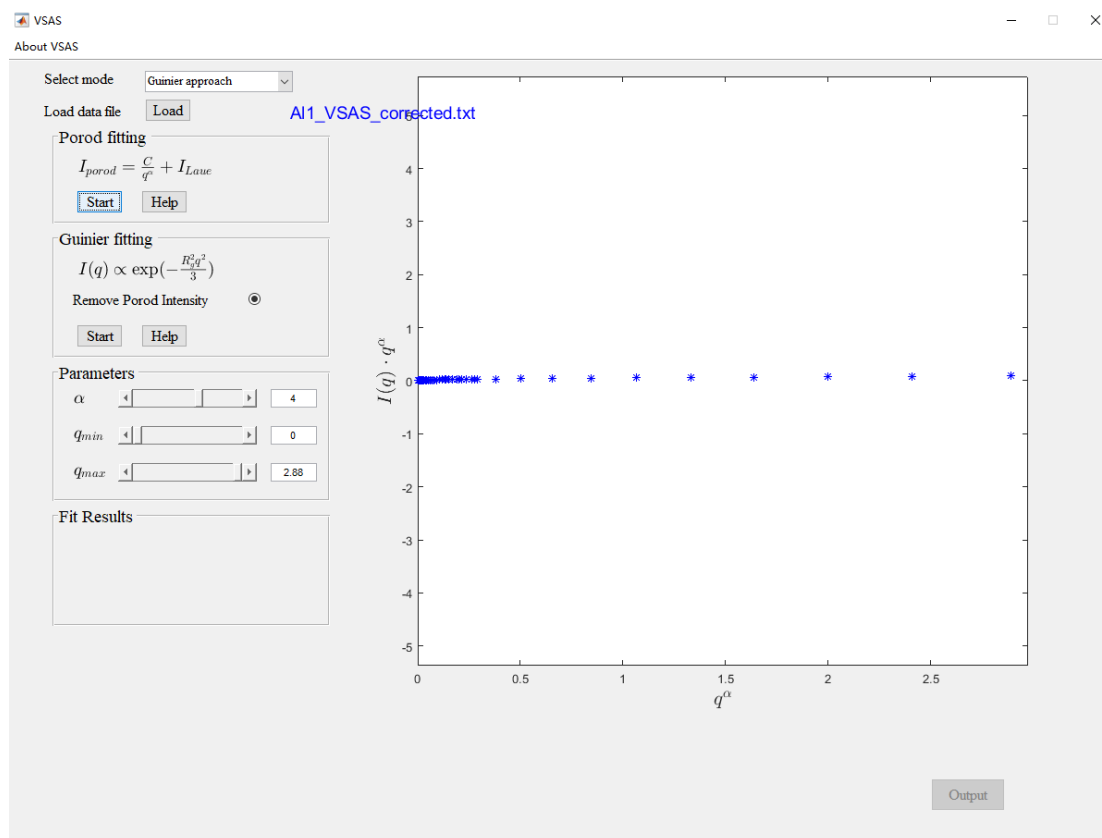

Figure 4.2.1(b) Fitting interface of Guinier approach mode
4.2.2. If you select "Distribution fitting Mode", click the "Load" button, and the "Select Data File" page will pop up. Select the required small-angle scattering data file, as shown in Figure 4.2.1(a). The data will be automatically loaded into the fitting software and displayed on the right side of the interface. Click the "Setting" option to manually set the fitting parameter range, model parameters, and algorithm super-parameters of Bayesian optimization and grid search method, as shown in Figure 4.2.2(a). Click "Help" button to obtain the specific meanings of each fitting parameter under this mode, as shown in Figure 4.4.2(b).